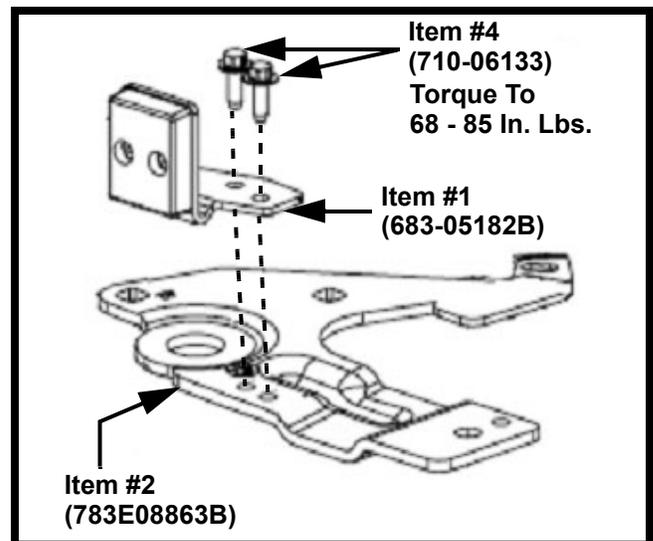

FIGURE 5
11. Locate from the Service Kit Item #1 (**683-05182B**) RH Deck Brake Assembly, Item #2 (**783E08863B**) Idler Pivot Bracket and Qty. (2) of Item #4 (**710-06133**) M6-1x 0.625" Hex Acorn Washer Screws.
12. Assemble Item #1 (**683-05182B**) RH Deck Brake Assembly to Item #2 (**783E08863B**) Idler Pivot Bracket and secure with both of Item #4 (**710-06133**) M6-1x 0.625" Hex Acorn Washer Screw shown in Figure 5.
13. Torque the two (2) M6-1x0.625" screws to 68-85 In. Lbs.